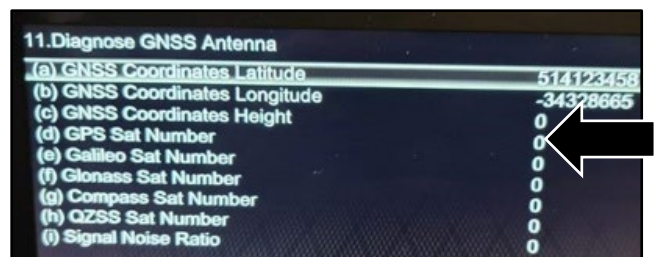

Figure 3
4. Do a check of the “GPS Sat Number” (refer to Figure 3) and confirm the number is correct with a mobile GPS app.